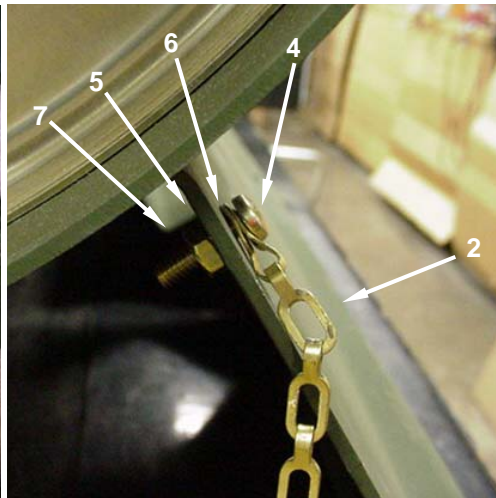

Figure 1. Dust Cover Assembly.
1. Inspect the dust cover (**Figure 1, Item 1**) for any dents, cracks, cuts, or other damage that would prevent the dust cover from covering the duct adapter and properly protecting the heater from dust, sand, or other foreign matter.
2. Inspect the chain (**Figure 1, Item 2**) for any cuts or breaks that would prevent it from securing the dust cover to the lower housing of the heater.
3. Wipe dust cover (**Figure 1, Item 1**) thoroughly with a clean, dry rag. For oily or stubborn dirt, moisten rag with alcohol.
1. Pull dust cover (**Figure 1, Item 1**) off duct adapter (**Figure 1, Item 3**).
2. Remove screw (**Figure 1, Item 4**), lockwasher (**Figure 1, Item 5**), flat washer (**Figure 1, Item 6**), nut (**Figure 1, Item 7**), chain (**Figure 1, Item 2**), and dust cover (**Figure 1, Item 1**). Discard damaged dust cover.
3. Position chain over hole in lower housing and install screw (**Figure 1, Item 4**), lockwasher (**Figure 1, Item 5**), flatwasher (**Figure 1, Item 6**), and nut (**Figure 1, Item 7**).
4. Install dust cover (**Figure 1, Item 1**) on duct adapter (**Figure 1, Item 2**).